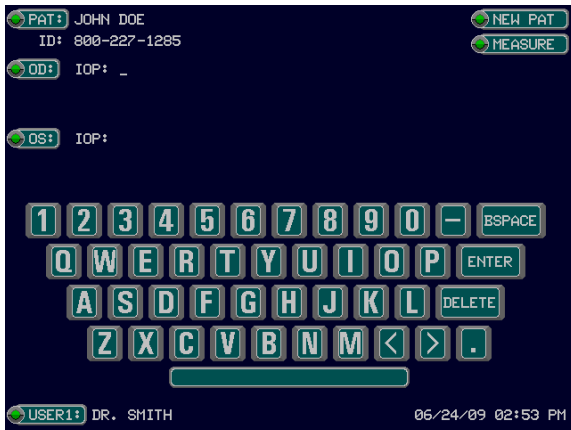

Figure 4-3 Patient Screen Display
1. Touch the [**PAT:**] button on the MEASURE SCREEN. Verify that the Patient Screen appears (see Figure 4-3).